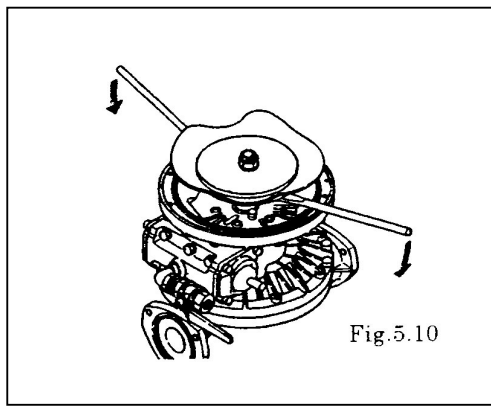

Fig. 5.10
- Grip the inside centre disk using crowbars and draw it to the opposite side, then turn the diaphragm over (exclude B□H, B□S type. [Fig.5.10, 5.11]).